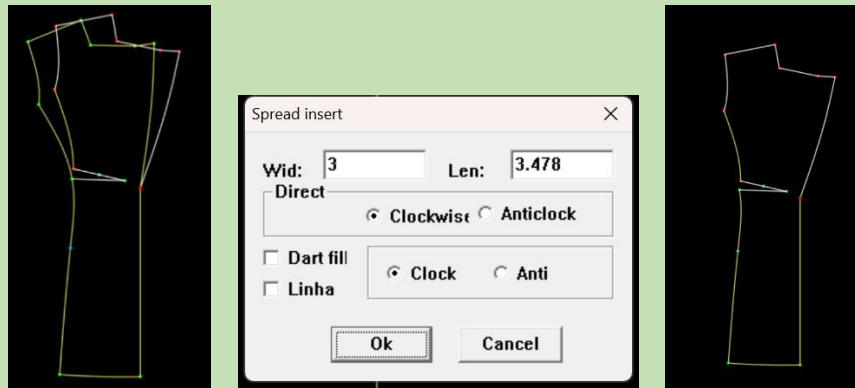

Figure4-89
6. Right-click to confirm and enter the parameters (Figure 4-89).